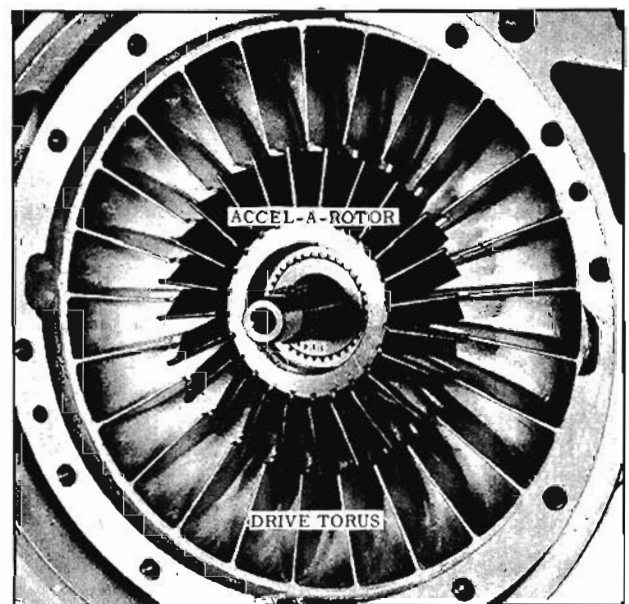

Fig. 6-37 Drive Torus and Accel-A-Rotor
13. From the front of the transmission, remove the drive torus member and accel-a-rotor as a unit. (Fig. 6-37)